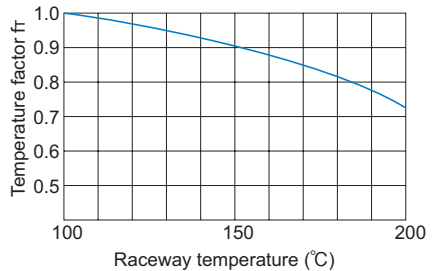

Fig.12 Temperature Factor (f_T)
- f_T : Temperature factor (see Fig.12 on A-101)
If the temperature of the environment surrounding the operating LM Guide exceeds 100°C, take into account the adverse effect of the high temperature and multiply the basic load ratings by the temperature factor indicated in Fig.12.